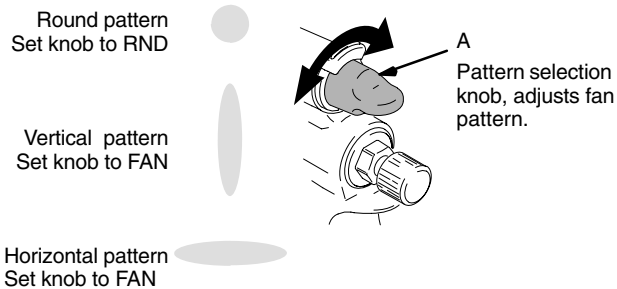

Fig. 7
The Pattern Selection Knob (A) determines the shape of the spray pattern. To create a round spray pattern, set the pattern selection knob (A) to RND. To create a fan pattern, set the pattern selection knob (A) to FAN. Refer to Fig. 7.